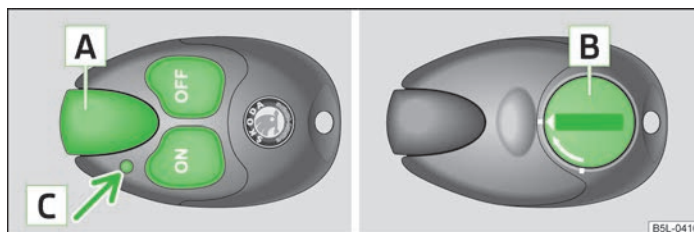

Fig. 93 Auxiliary heating: Radio remote control
- For switching on, press the button  » Fig. 93.
If the battery is properly charged, the effective range is up to 600 m. To switch on/off the auxiliary heating, hold the radio remote control vertically with the antenna  » Fig. 93 facing upwards. The antenna must not be covered with the fingers or the palm of the hand during this process. Obstacles between the radio remote control and the vehicle, bad weather conditions and a weaker battery can clearly reduce the range.
The indicator light in the radio remote control  » Fig. 93 indicates after a key-stroke if the remote control signal was received by the auxiliary heating and if the battery is adequately charged.
If the indicator light on the radio remote control indicates a weak or discharged battery,  » Fig. 93 on page 90, it must be replaced. The battery is located under a cover  » Fig. 93 on page 90 on the back of the radio remote control.